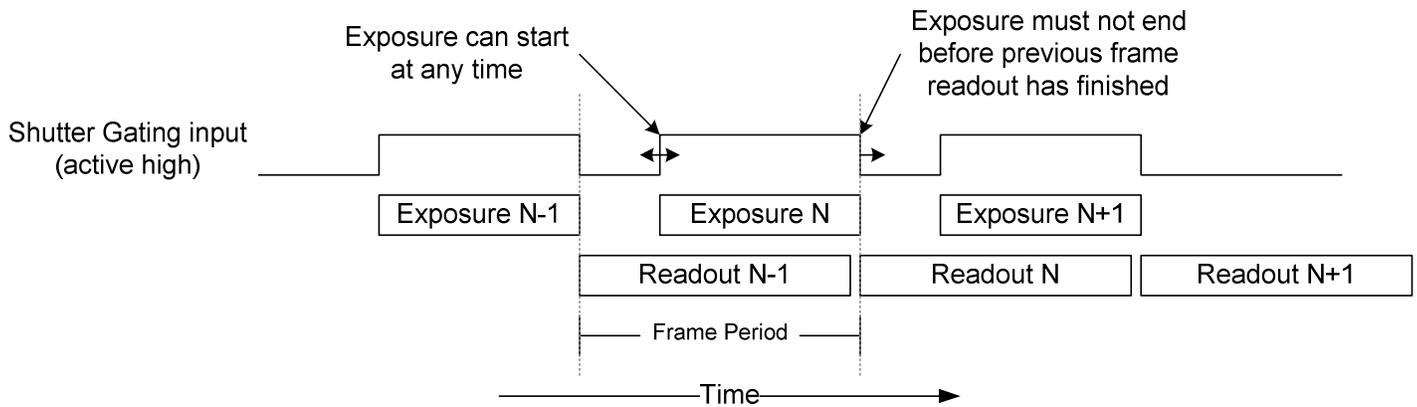

Figure 8 - Shutter gating timing
3. Exposure end must occur at least one frame period ( $1 / (\text{frame rate})$ ) after the previous exposure end to allow time for sensor readout. An example is shown in Figure 8 below. Frame period can be determined for your current resolution in the Record Settings window, under the ROI display.